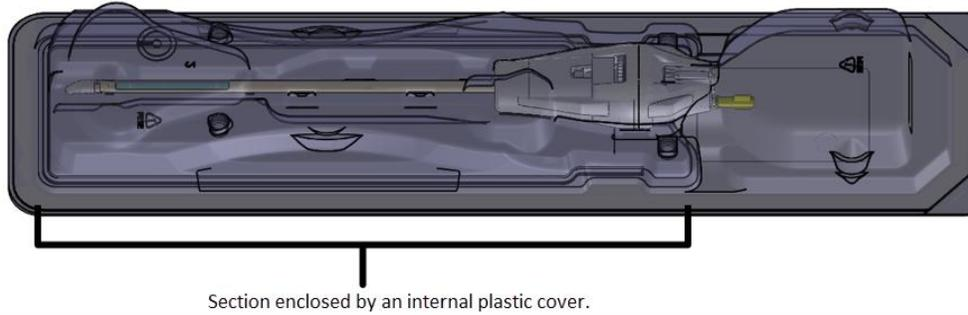

Figure 6: UA sealed inside a sterile package
**The Ultrasound Applicator (UA) is fragile and should be handled with extreme care. If dropped or handled roughly, internal components could be damaged and not be obvious to the operator. Do not use a UA if you suspect any damage.**
**MRI Technologist:** The ECD is *not* sterile and can be handled accordingly. The UA and contents inside the UA packaging **are** sterile. Figure 6 shows the UA inside its sealed and sterile package. There is another plastic cover that encloses the UA from its tip to the top of the handle that exposes the UA cable and guidewire inputs and fluid tubes. When you connect the fluid tubes and UA cable, the UA’s sterile barrier will have to be broken. Keep the internal plastic cover over the UA during preparation to limit contamination to only the top of the UA handle.